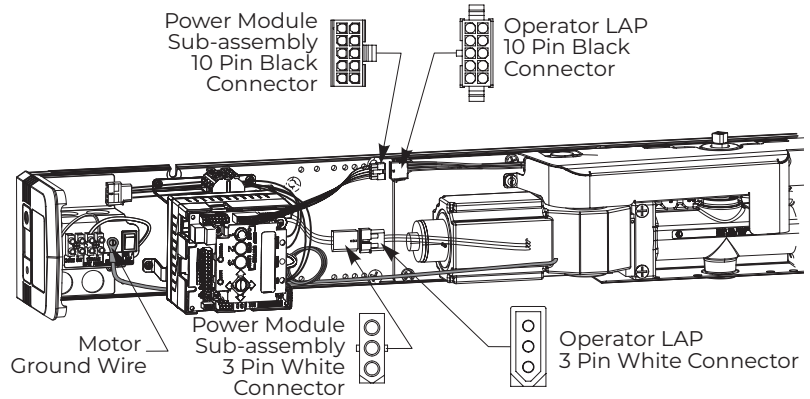

Fig. 9
1. Detach 10-pin black connectors between operator LAP and power module sub-assembly. (Fig. 9)
2. Detach 3-pin white connectors between operator LAP and power module sub-assembly. (Fig. 9)
3. Remove the screw fastening the motor ground wire and remove the wire from the conduit assembly. **Do not discard screw.** (Fig. 9)